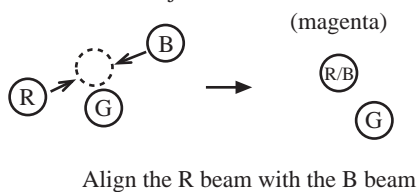

Fig. 1-2
- (1) Receive the dot pattern signal through the pattern generator.
- (2) Pay attention to the center of the screen, and perform adjustments with two 4-pole magnets so that the R beam and the B beam perfectly align and become a magenta color. (refer to Fig. 1-2)